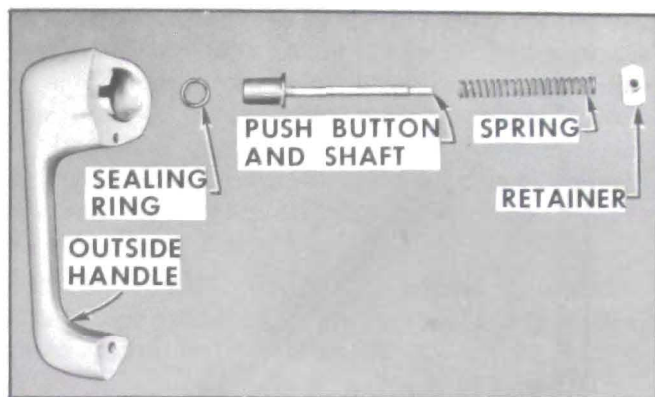

Fig. 13-43—Front Door Outside Handle Disassembled
2. Depress retainer slightly and turn retainer one-quarter turn. Remove retainer, spring, push button and shaft and sealing ring from handle. See Figure 13-43.